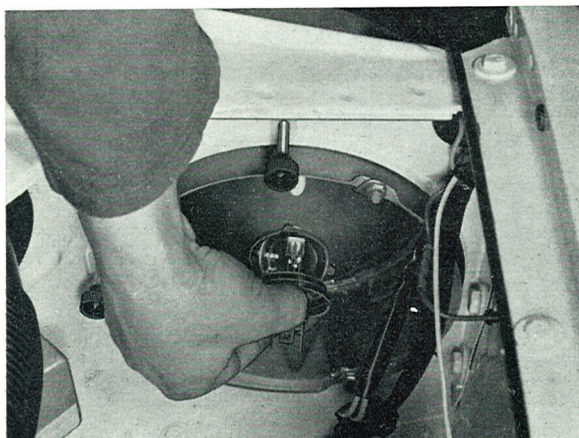

Fig. 3-65. Removing the bulb
2. Remove the bulb, Fig. 3-65. When refitting the bulb, make sure that it is placed correctly in the insert. The small tabs on the collar of the bulb should correspond to the jacket in the insert.